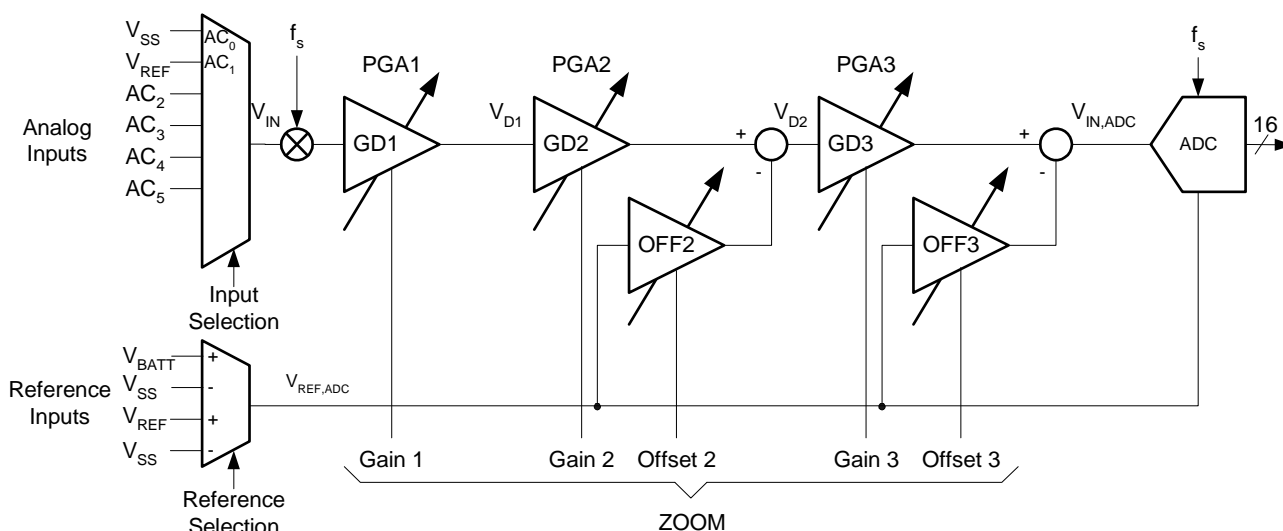

Figure 8 - ZADC General Functional Block Diagram
Figure 8 shows the general block diagram of the acquisition chain (AC). A control block (not shown in Figure 8) manages all communications with the 2-WIRE peripheral. The clocking is derived from the internal 4 MHz Oscillator.